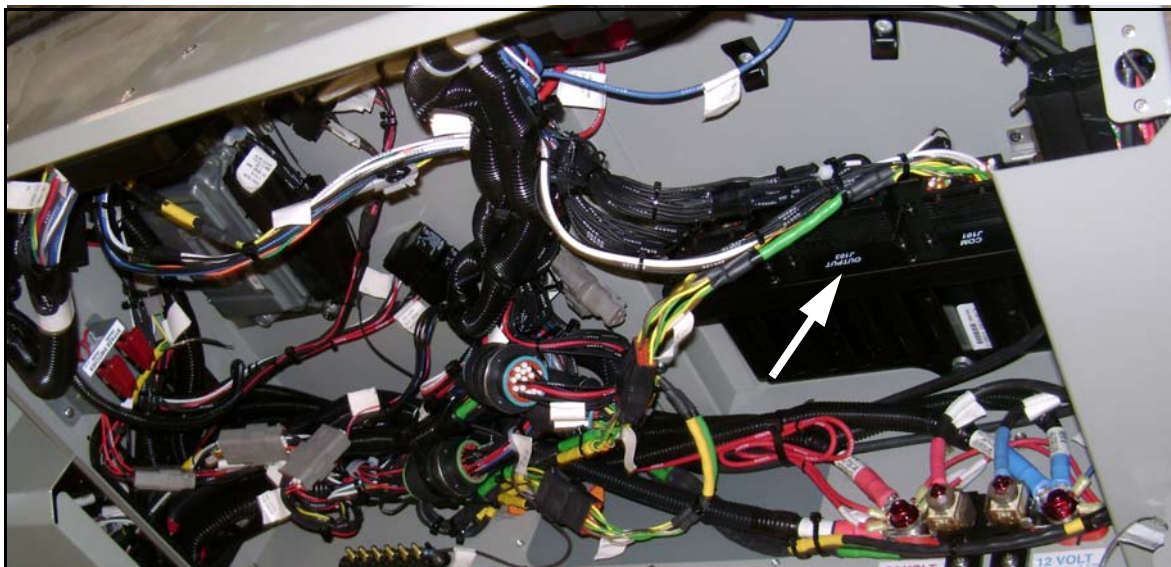

Figure 6.
17. Locate Plug 103 on the Actia module (refer to Figure 6). Locate Pin 38 on Plug 103. Remove the plug from the cavity and populate Pin 38 with the pin end of the remaining cut section of the harness, p/n 07-12-4975.